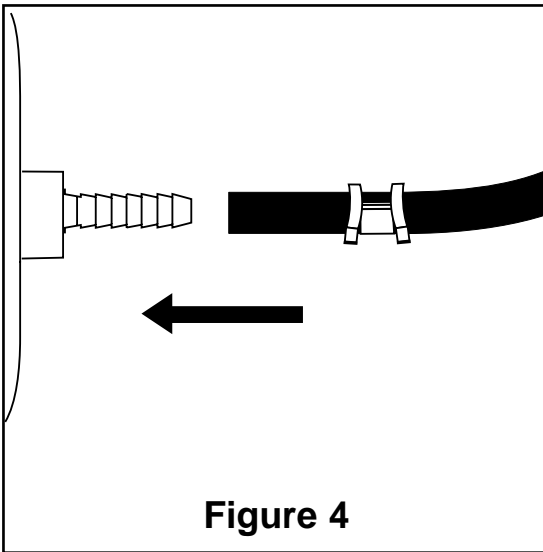

Figure 4
H. Push the air line onto the stem, covering all the barbs (Figure 4).
E. Push the air line onto the stem, covering all the barbed section (Figure 4).
F. With pliers slide the air line clamp forward until it fully covers barbed section (Figure 4).